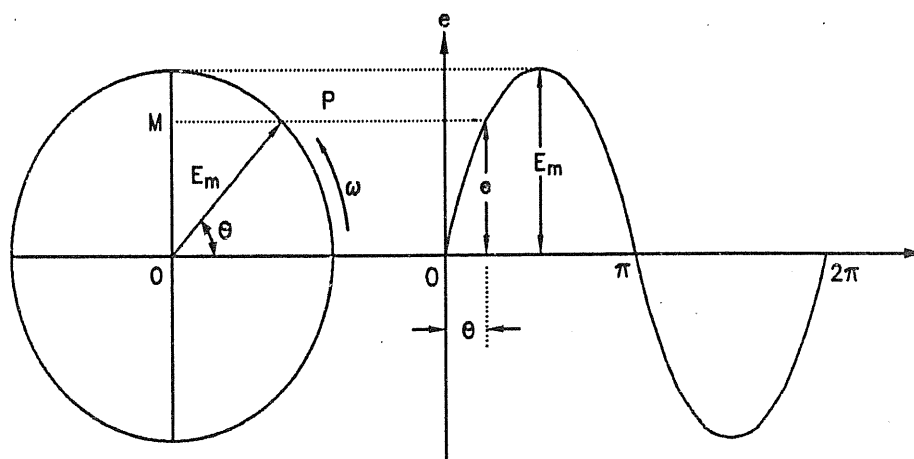

FIG. 2.18 : REPRESENTATION OF ALTERNATING QUANTITY BY A PHASOR
- Consider an alternating quantity (voltage represented Fig. 2.18 by the equation $e = E_m \sin \omega t$). Take a line OP to represent the maximum value of voltage E_m to scale. Imagine this line OP is rotating in anti-clockwise direction at an angular velocity ω rad./sec. about the point O. After time of t seconds the line is rotated through an angle θ ($\theta = \omega t$), from its horizontal position as shown in Fig. 2.18.
- If we plot the projections of phasor on y-axis versus its angular position point by point, a sinusoidal alternating voltage is generated as shown in Fig. 2.18. Thus the phasor represents the sine-wave for every instant of time.